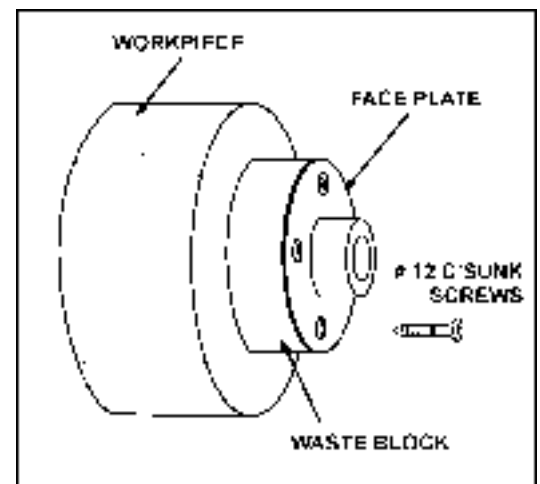

FIGURE 9
- Make a block the same diameter as the face plate, Figure 9. Both glue block and workpiece should have good flat surfaces for gluing.